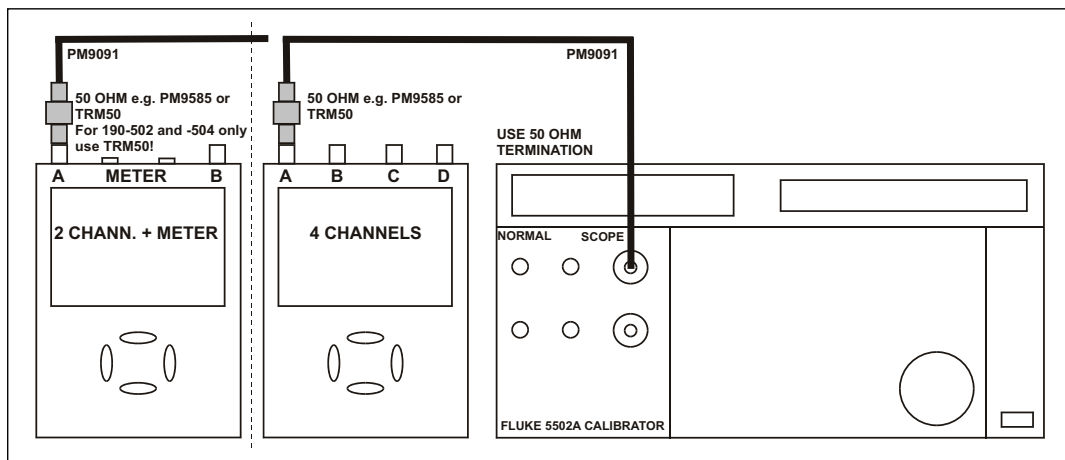

Figure 4-6. 5502A Scope Output to Test Tool Input A
- Connect the Test Tool to the 5502A as shown in Figure 4-6.
1. Connect the Test Tool to the 5502A as shown in Figure 4-6.